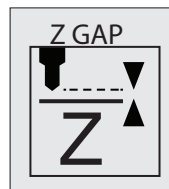

Fig. 28
1. Scroll to “Z GAP” using the arrows on the touchscreen. Select Z GAP and using the “Up / Down” arrows, move the print pad up so that it is just touching the tip of the print jet. (Fig. 28 & 29)